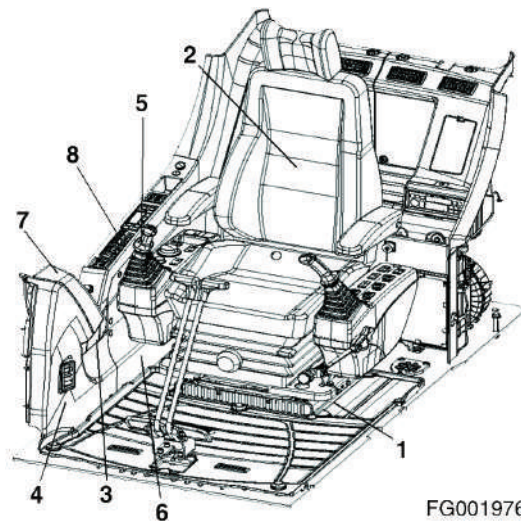

Figure 15
16. Install front cover (4, Figure 15), and side covers (5 and 6, Figure 15), when install cover (4, Figure 15) connect hour meter connector.
17. Install seat (2, Figure 15).
18. Install floor mat (1, Figure 15).